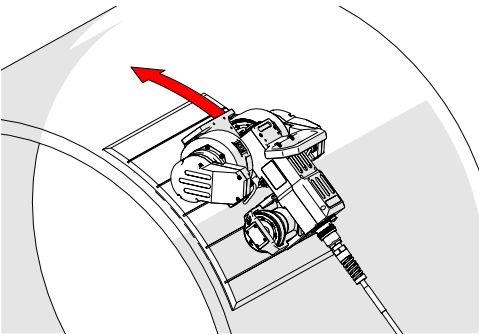
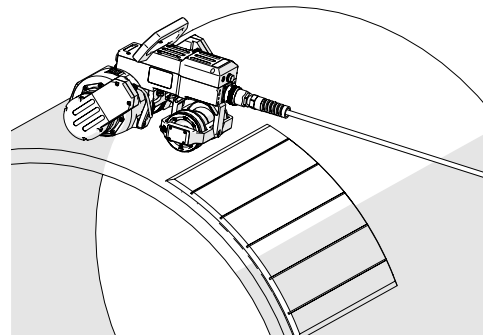

Fig. 158 - Drive crawler off the mat
Fig. 159 - Magnetized to surface
4. Ensure all three wheels of the crawler are held firmly against the installation/removal mat. While holding the crawler, use **Jog Mode** (see “Jog Mode” on page 79) to carefully drive (Fig. 158) the crawler off the installation/removal mat and onto the inspection surface (Fig. 159).
5. Once the crawler is securely on the inspection surface, the user may let go of the crawler (Fig. 159).